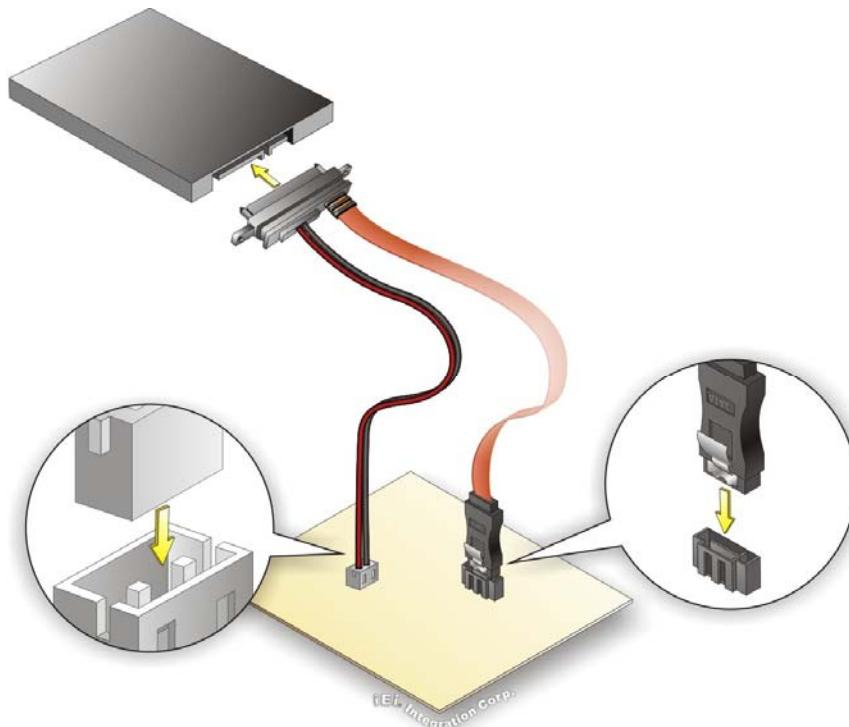

Figure 4-4: SATA Drive Cable Connection
Step 2: Insert the cable connector. Insert the cable connector into the on-board SATA drive connector and the SATA power connector. See **Figure 4-4**.
Step 3: Connect the cable to the SATA disk. Connect the connector on the other end of the cable to the connector at the back of the SATA drive. See **Figure 4-4**.